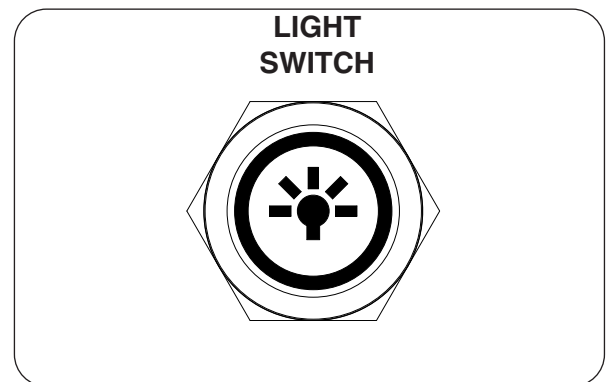

Fig. 11-3 Light switch
This key (and the entire remote) only works when the light switch located below the grill's drip tray is in the ON position. See Fig. 11-3.
1. Push the light switch (below grill's drip tray) to the ON position. The light switch will light up when on. See Fig. 11-3.